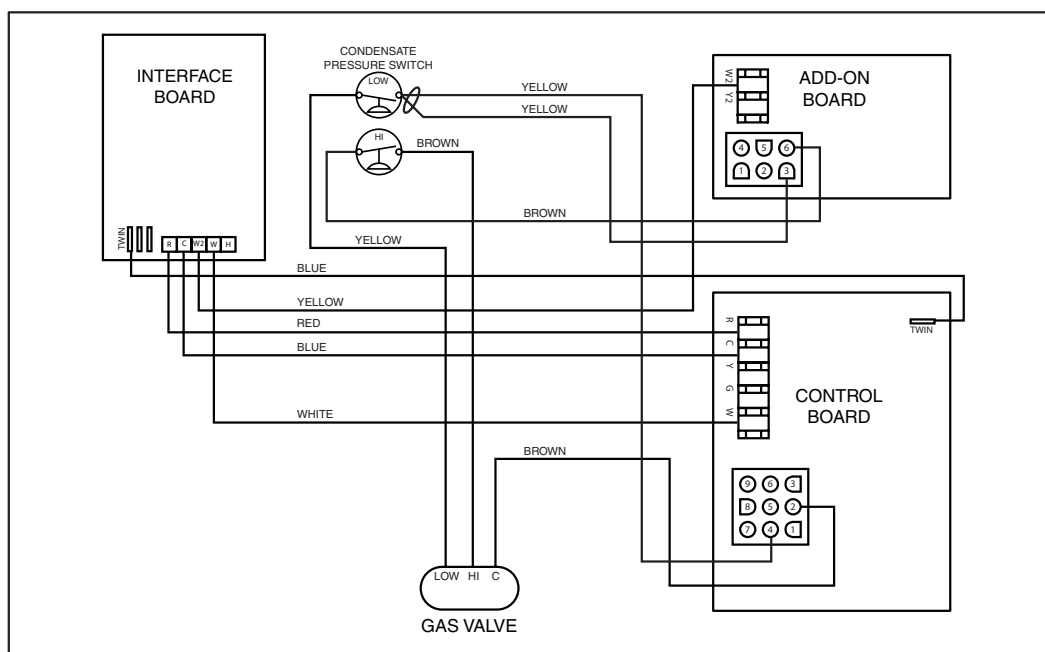

Figure 1. 95+ Furnace Gas Valve Wiring
Conversion of 95+ 2-stage Upflow Furnace Models *TE Series with Factory Installed Variable Speed Blower (See Figures 1 & 3)
9. Attach the W2 wire from the Interface board to the W2 terminal on Add-on combustion board. (See Figure 1)